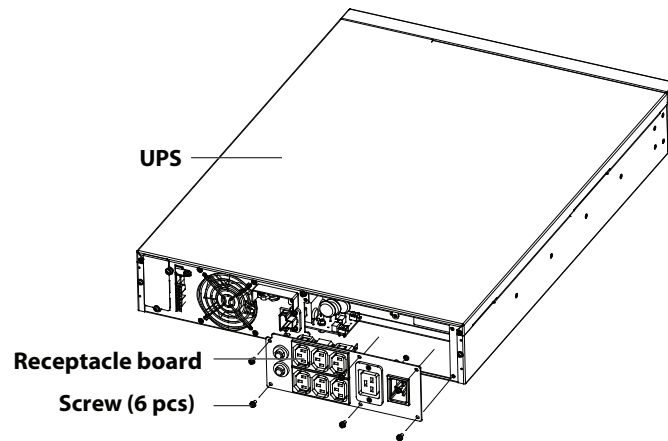

Figure 15: Removing the receptacle board
1. Remove the receptacle board on the UPS rear panel, as shown in Figure 15. Retain the six rear panel mounting screws for securing the box assembly to the UPS.